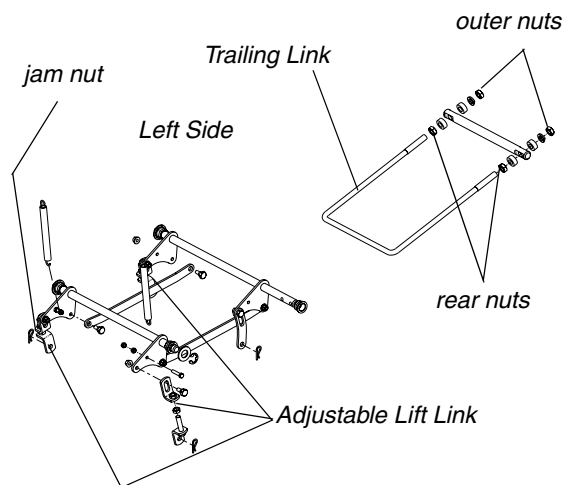

Figure. 5
- If the dimension at the front of the mowing deck is 1/8"-1/4" lower than the dimension at the rear of the deck (pitch) on each side of the mower, do not adjust. If not, you will need to adjust the Lift Links (See Figure 5).